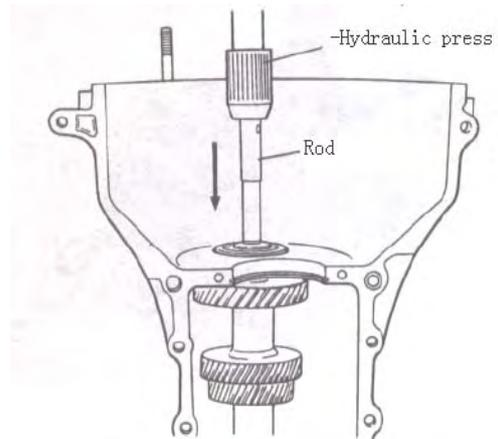
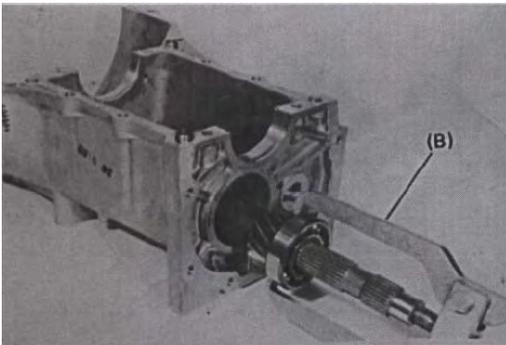

Fig 10-22
Fig 10-23
- (4) Remove circlip from countershaft by using bearing remover (B). Push out countershaft to extension case side by using hydraulic press, remove bearing, and take countershaft assembly out of case. (FIG.10-22, FIG.10-23)